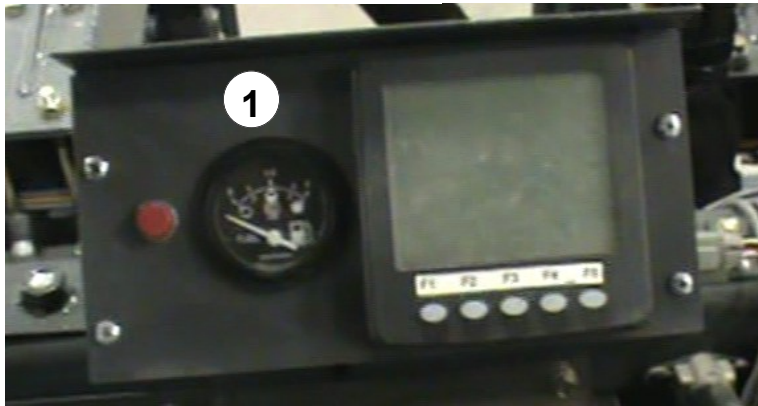

FIG 5.62
**Fuel Gauge** - (fig. 5.62, item 1) The fuel gauge measures the amount of fuel in either fuel tank, depending on the tank selected with the fuel switch. A "YELLOW" indicator light alerts operator of low level operation.